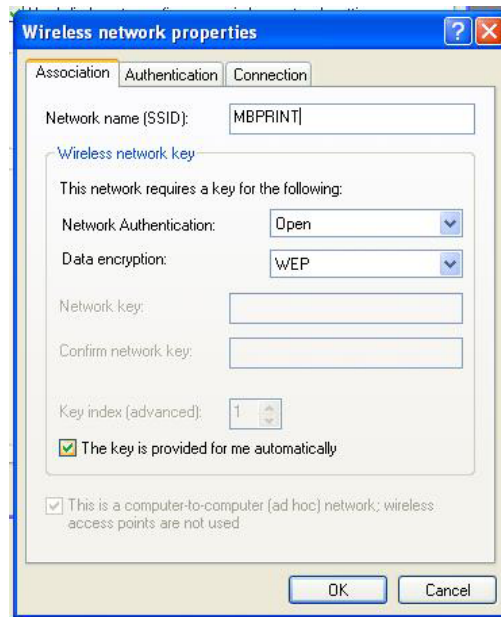

Figure 3-10, Wireless Network Properties
7. When the Wireless Network Properties (Figure 3-10) screen appears, input MBPRINT in the Network Name (SSID) field.